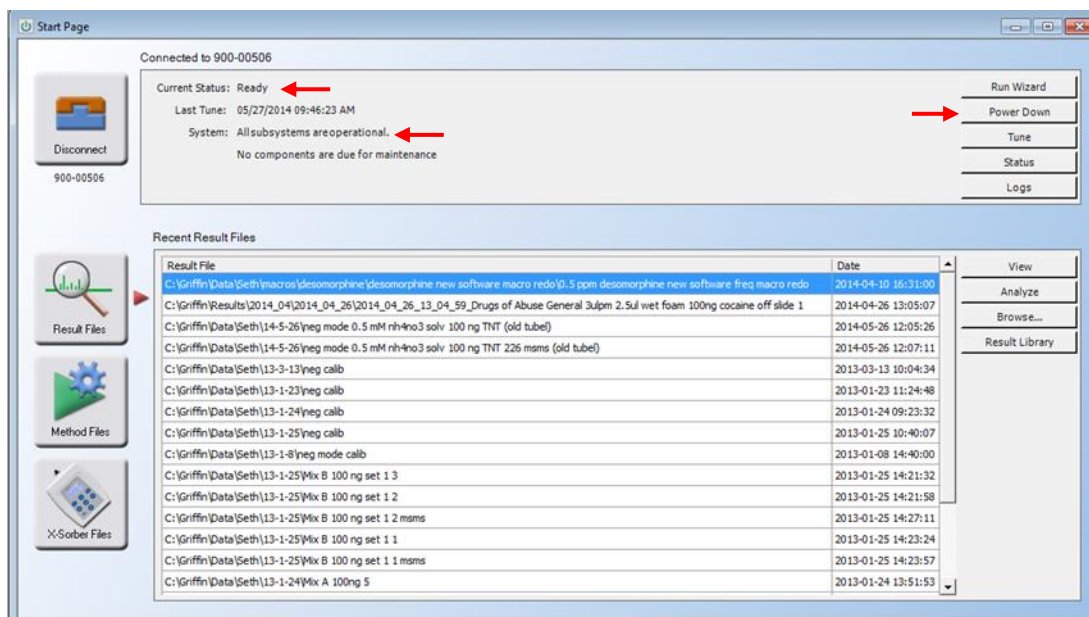

Figure 1.15 – AI-MS power-down/status window
2. Connect the instrument by pressing the “Connect” icon in the upper-left corner of the start page screen. The system is successfully connected when the current status is labeled as ready and all subsystems are operational (Figure 1.15).